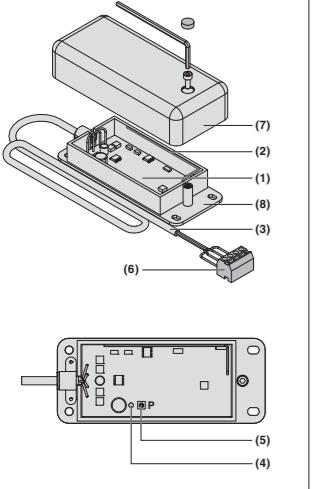

Fig. 1
2.1 Receiver BDE221 / BDE321 (fig. 1)
2.1 Mottagare BDE221 / BDE321 (fig. 1)